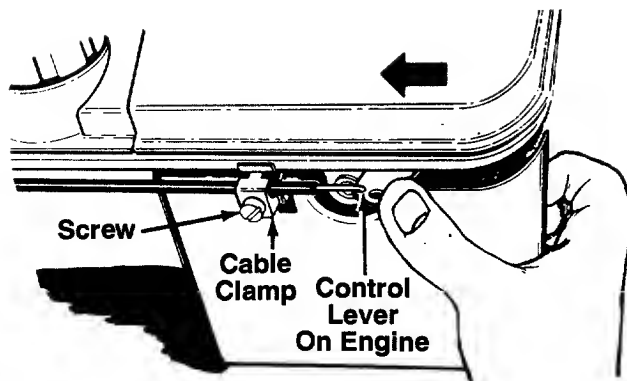

FIGURE 13.
1. Remove the screw shown in figure 13. Remove the cable clamp from the cable.